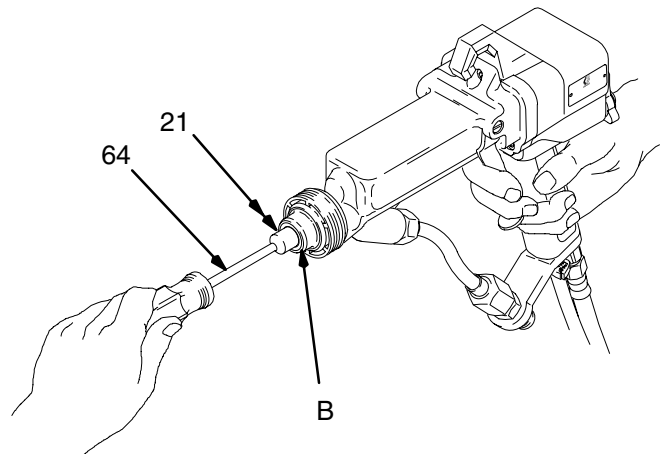
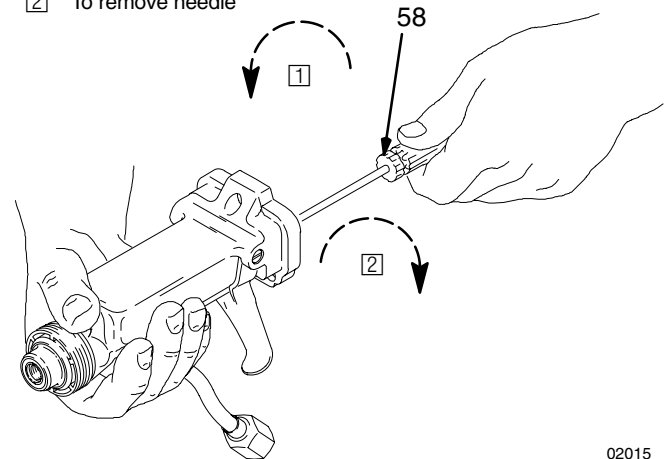

Fig. 8
Fig. 14
4. Trigger the gun and remove the seat housing (21) with the 9 mm driver (64), supplied. See Fig. 8.
3. Trigger the gun and remove the seat housing (21) with the 9 mm driver (64), supplied. See Fig. 8, page 29.
5. Place the 2 mm driver (58), supplied, in the back of the fluid needle assembly. Push the tool in and turn it clockwise, slightly, to tighten the packings. See Fig. 14.
7. Trigger the gun and install the seat housing (21) with the 9 mm driver (64). Tighten the seat housing until it's snug and then tighten it 1/8 turn more.
3. Trigger the gun and remove the seat housing (21) with the 9 mm driver (64). See Fig. 8, page 29.
5. Remove the trigger screws (4) and trigger (13).
6. Place the 2 mm driver (58) in the back of the fluid needle assembly (28). See Fig. 14. Push the tool in and turn it counterclockwise about 12 full turns to unthread the needle.
7. Insert the 2 mm driver (58) into the front of the gun and push the fluid needle assembly (28) out the back of the gun body.